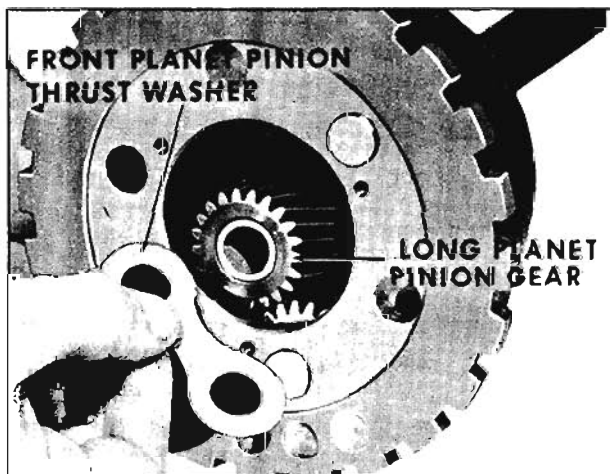

Fig. 6-390 Removing Long Planet Pinion Gear
- Remove the long planet pinion shafts and long planet pinion gears. (Fig. 6-390)
- Remove front planet pinion thrust washer. (Fig. 6-390)